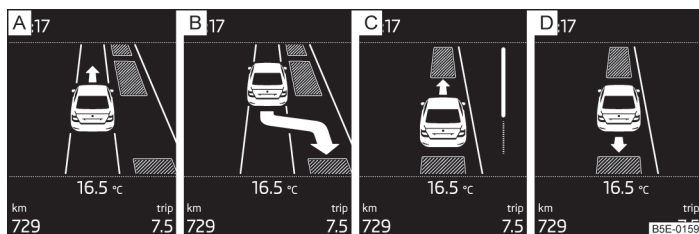

Fig. 134 Displays in the instrument cluster display
The time limit for the parking procedure with the help of the system is 6 minutes. If the system has recognised a suitable parking space, this parking space is shown in the display » Fig. 134 - A.
- Continue driving forwards until the display » Fig. 134 - B appears in the display.
- If the arrow in the display is flashing to the front » Fig. 134 C, engage 1st gear or move the selector lever into the position D.
- When the arrow in the display is flashing towards the rear » Fig. 134 - D, engage the reverse gear or move the selector lever to the position R.